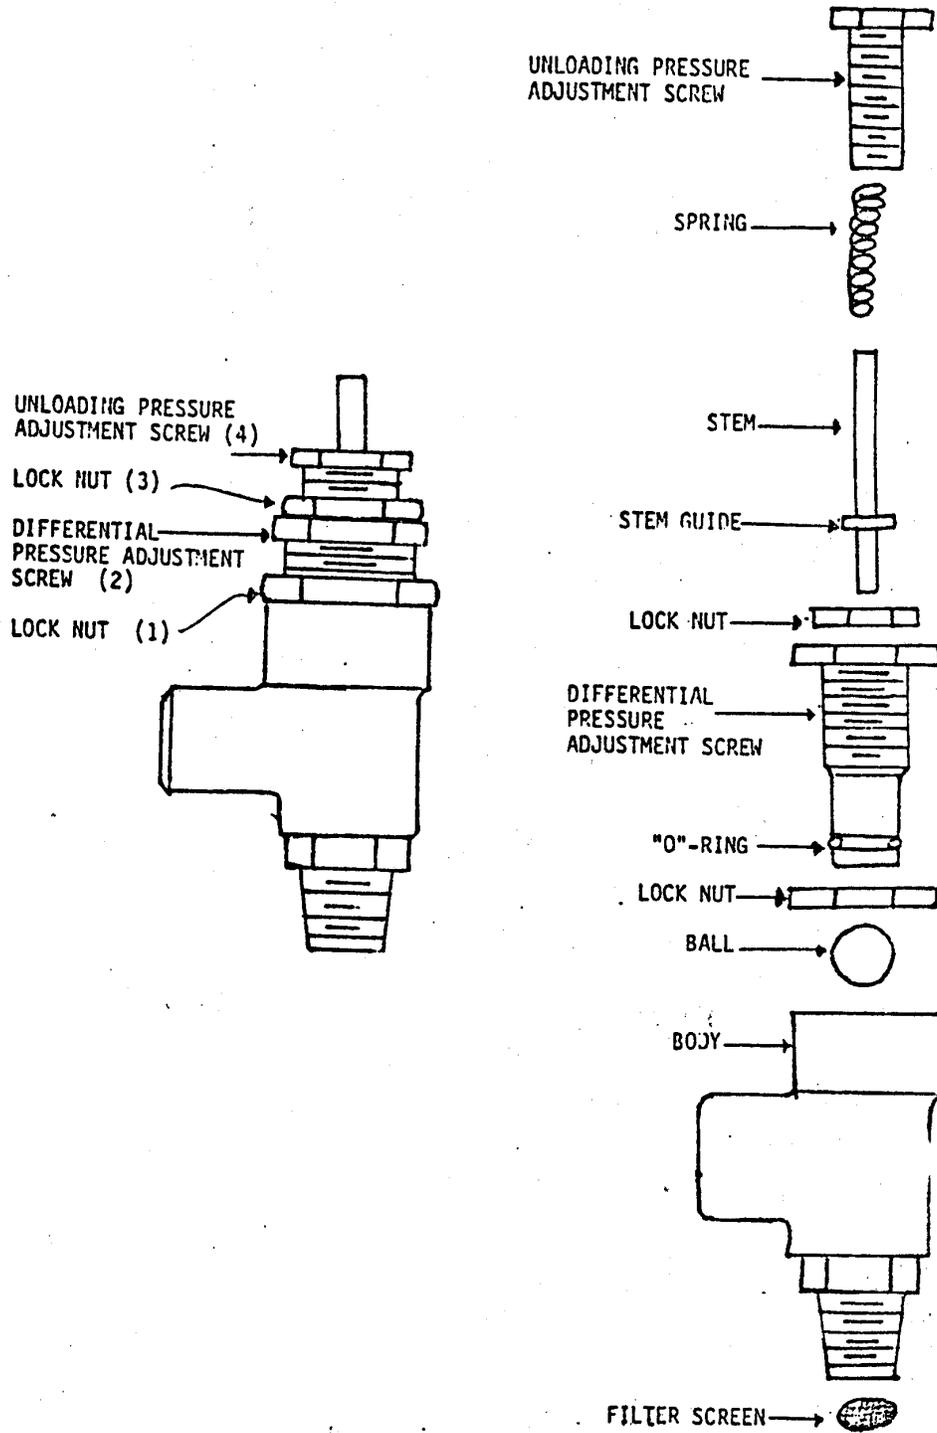

Figure F.1.3.1
F.1.3.1 CLEANING AND ADJUSTING THE UNLOADER PILOT VALVE (See Figure F.1.3.1.) Since the unloading ball is the only vital moving part in the unloader pilot valve, the valve should require very little servicing. To insure proper operation, the filter screen and the inside of the unloader valve must be kept clean. To clean, disassemble the valve and clean all parts with alcohol. Lubricate all parts with a light coat of silicone oil and reassemble.